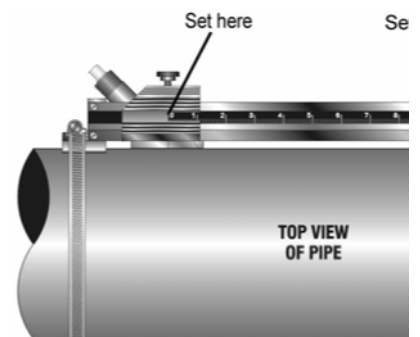

Figure 2.10
5. Place the first transducer in between the mounting rails near the zero point on the mounting rail scale. Slide the transducer clamp over the transducer. Adjust the clamp/ transducer such that the notch in the clamp aligns with zero on the scale. See **Figure 2.10**.